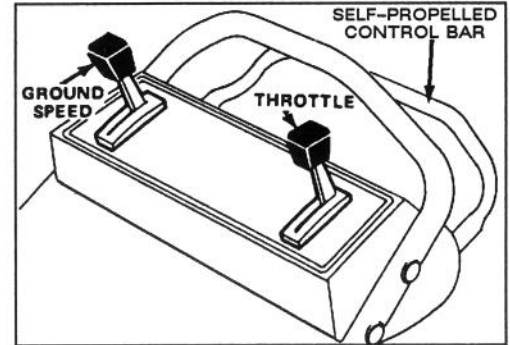

Figure 6
1. **CONTROLS**— Throttle, ground speed control, and blade/self-propelled control bar are on upper handle (Fig. 6). Recoil starter is on top of engine.
3. Move ground speed control to "N" (Fig. 6).
7. STOPPING (Fig. 6) — Release control bar to stop blade and traction drive. Move ground speed control to "N". To stop engine, move throttle to OFF. Pull wire off spark plug if mower will be unattended or not used.